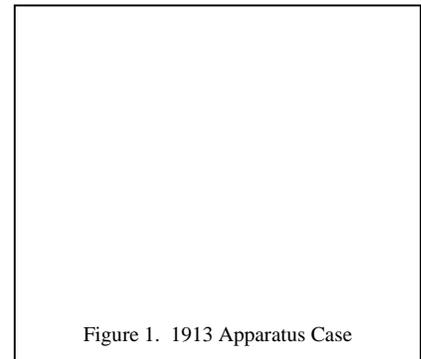

Figure 1. 1913 Apparatus Case
- 1.1 The 191300 and 191301 Apparatus Case (figure 1) provides enclosed wall or desktop mounting for two Type 10 modules. The Model 191300 includes an integral power rectifier/regulator which provides a regulated -24 or -48 Vdc to the modules from an ac source. The Model 191301 is identical to the 191300 but does not include the rectifier/regulator circuitry. Both models are equipped to accomodate external -22 Vdc to -56 Vdc input power.